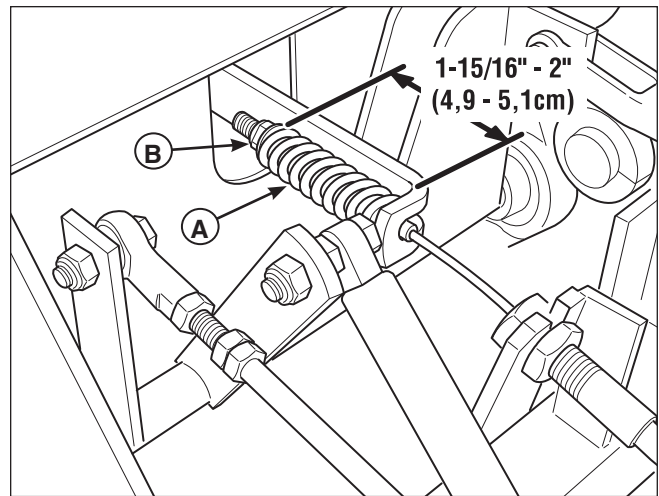

Figure 35. Parking Brake Adjustment
3. Locate the brake spring (**A**, **Figure 35**).